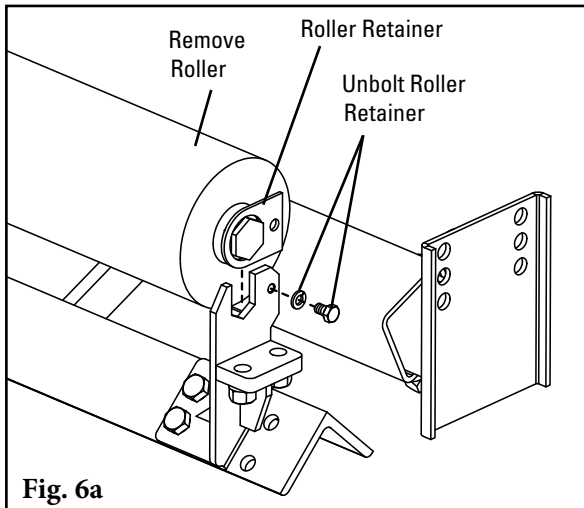
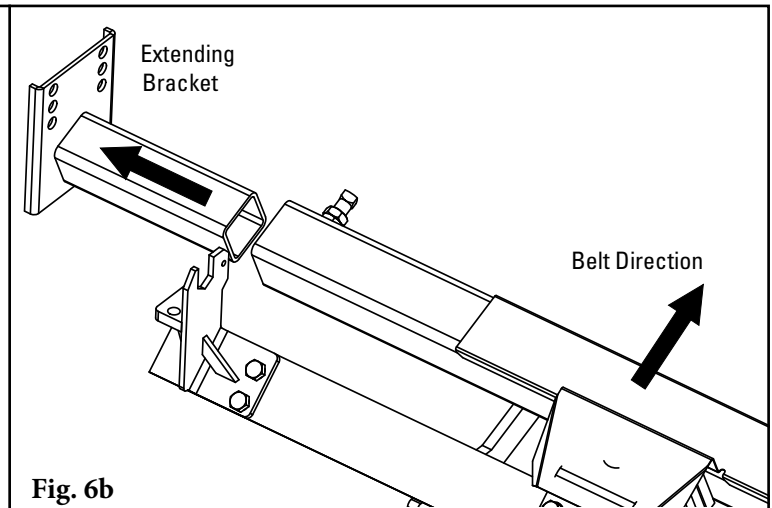

Fig. 6a
Fig. 6b
6. **Remove Roller** by unbolting Roller Retainer (Fig. 6a). Determine orientation of trainer and remove far side Extending Bracket (Fig. 6b).